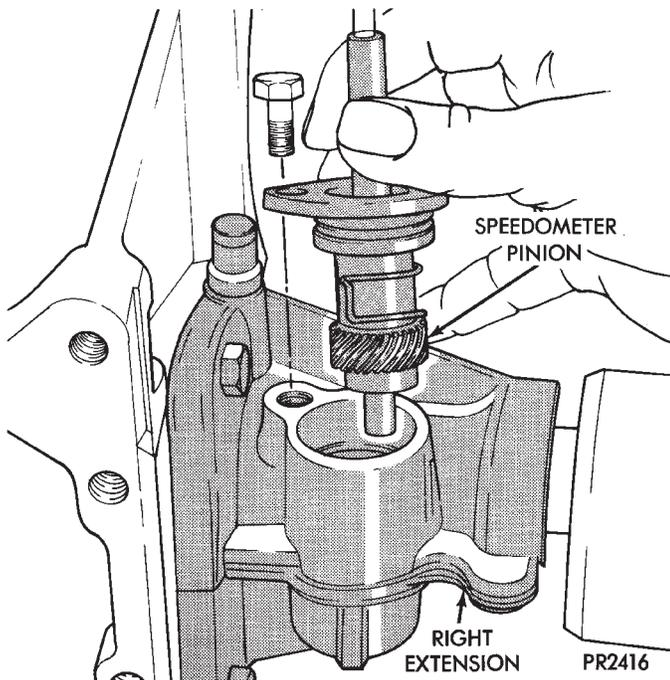

Fig. 2 Remove Speedometer Pinion
- (1) Remove right driveshaft. See Driveshaft Assemblies Remove.
- (2) Remove speedometer pinion from the extension housing (Fig. 2).